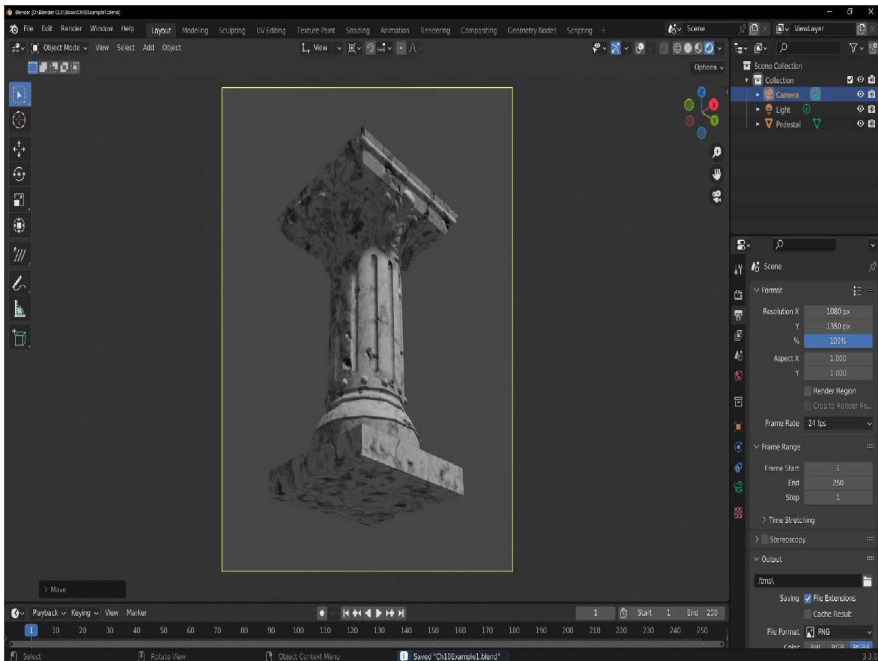

Figure 10.3: Pedestal object from previous exercises shown in Rendered Viewport Shading mode
17. Press **R** and **X** to constrain rotation of the **Camera** on the x view axis and rotate the camera downward to create a dramatic upward view of the **Pedestal** from below, as shown in *Figure 10.3*: